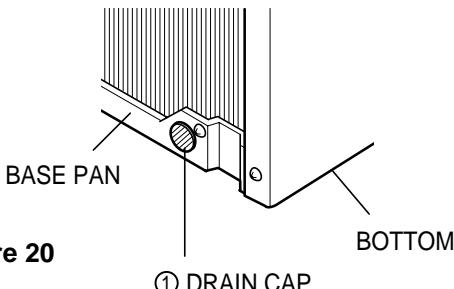

Figure 20
On exceptionally hot and humid days the air conditioner may overflow condensed water. If the air conditioner is used in hot and a high humidity zone, exchange the ① DRAIN CAP for the ② DRAIN PIPE.(See Figure 20, Figure 21)